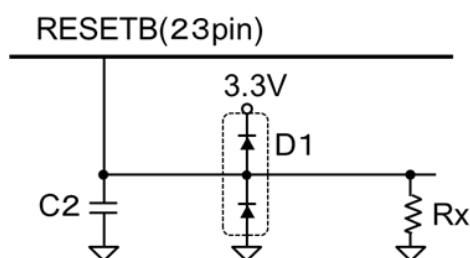

Figure 2-3 Example of an external circuit for the RESETB terminal
- An example of an external circuit for the RESETB terminal is shown in Figure 2-3, and an example of the circuit constants is shown in Table 2-3.